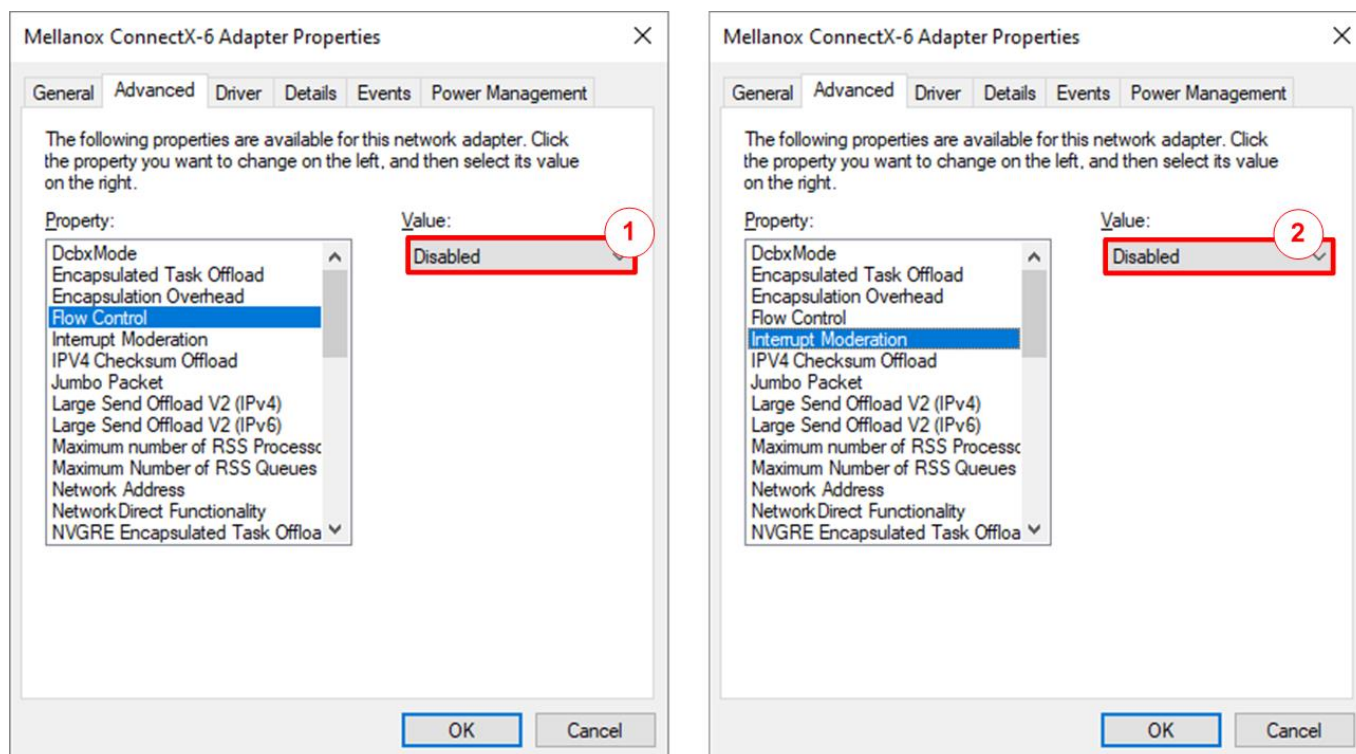

Figure 3-3 Disable Flow Control and Interrupt Moderation
- 1) Select “Flow Control” and set the value to “Disabled”, as shown in the left window of Figure 3-3.
- 2) Select “Interrupt Moderation” and set the value to “Disabled”, as shown in the right window of Figure 3-3.